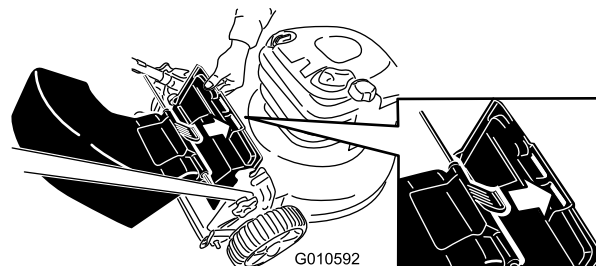

Figure 17
3. Insert the tab on the rear-discharge deflector into the right-hand slot in the rear deflector (Figure 17).